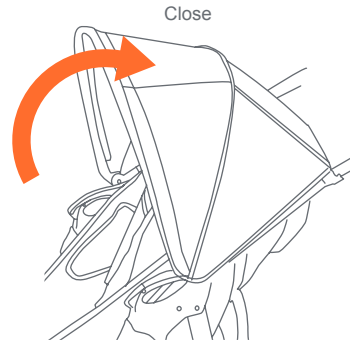

Fig. 9
- 9)** • To fold the canopy: pull backwards on the front edge (Fig. 9).